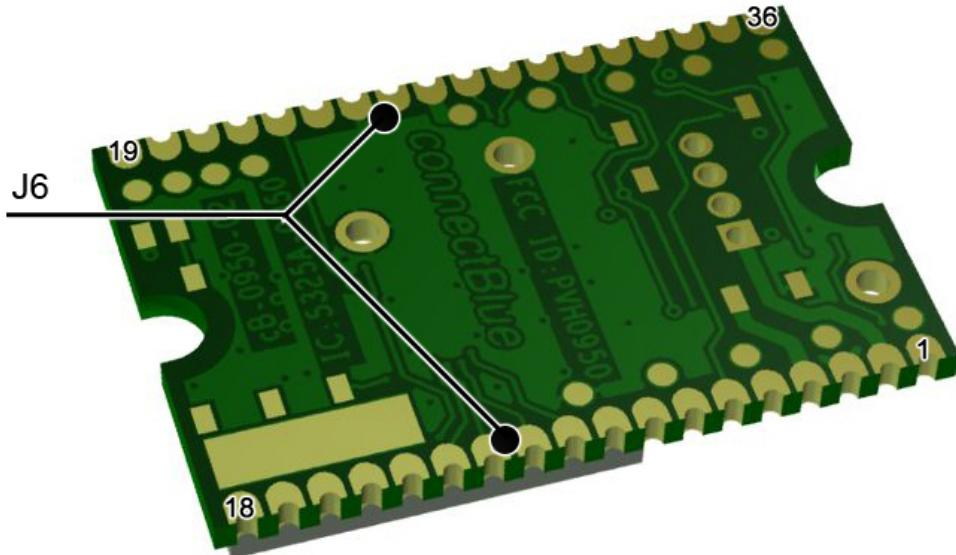

Figure 6: The solder pads J6 are available on the long edges of the bottom side of the PCB.
- Via the PCB solder pads on the edge of the PCB, J6 (see Figure 6). See Section "Using the J6 PCB solder pads" for more information.
See Figure 6 and 7 above.